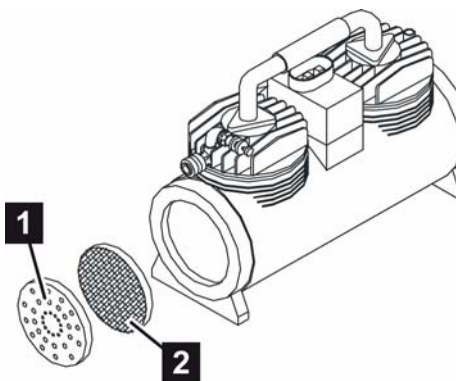

Fig. 64: Compressor filter
1. Open the filter cover (Fig. 64/1).
2. Remove and knock off the filter (Fig. 64/2).